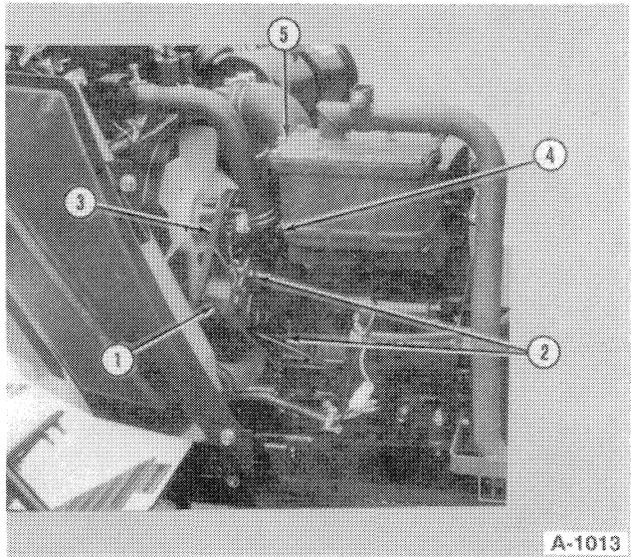

FIGURE 1-21
8. Loosen the alternator bracket bolt, 2, Figure 1-21. Then remove the belt from the alternator and fan pulley.
10. Remove the muffler/exhaust manifold assembly, 5, Figure 1-21.